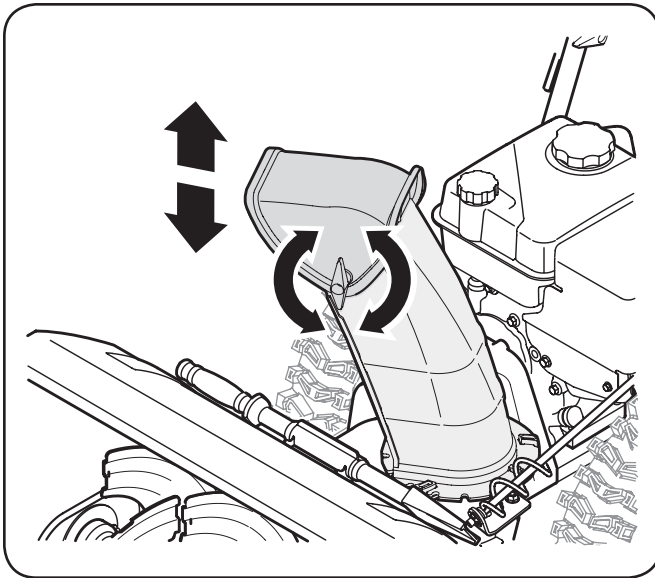

Figure 3-22
2. Pivot the chute upward or downward before retightening the wing knob. See Figure 3-22.